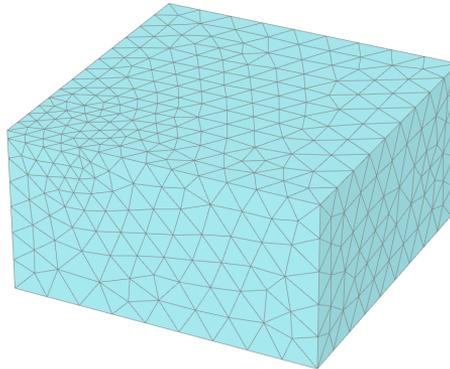

Figure 1.11 Generated mesh in the *Output* window
- After the mesh is generated, click the *View mesh* button. A new window is opened displaying the generated mesh (Figure 1.11).